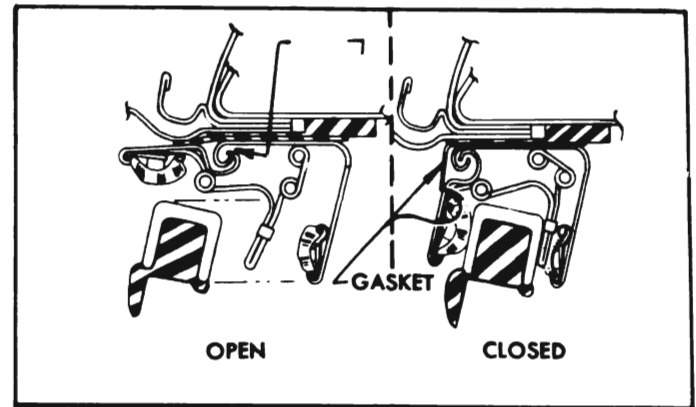

Figure 1-18—Sealing Strip Lubricare
1. Open the door and apply a coat of Lubriplate No. 107 or No. 110 to entire length of hinge indicated in figure 1-18. Wipe off any excess. Do not apply this lubricant to the awning gasket.
"DC-4" Silicone Compound or "DC-7" Silicone Emulsion to both sides along length of the awning gasket indicated in figure 1-18. Wipe off excess compound to avoid accumulation of dust.